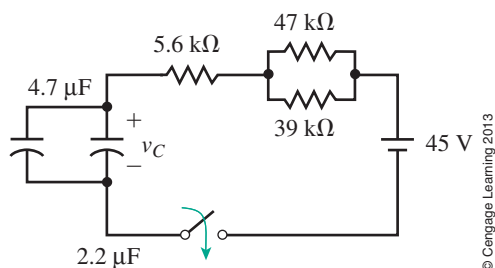

FIGURE 11-55
29. The capacitors of Figure 11-55 are uncharged. The switch is closed at $t = 0$. Determine the equation for v_C . Compute v_C at one time constant using the equation and the universal time constant curve. Compare answers.